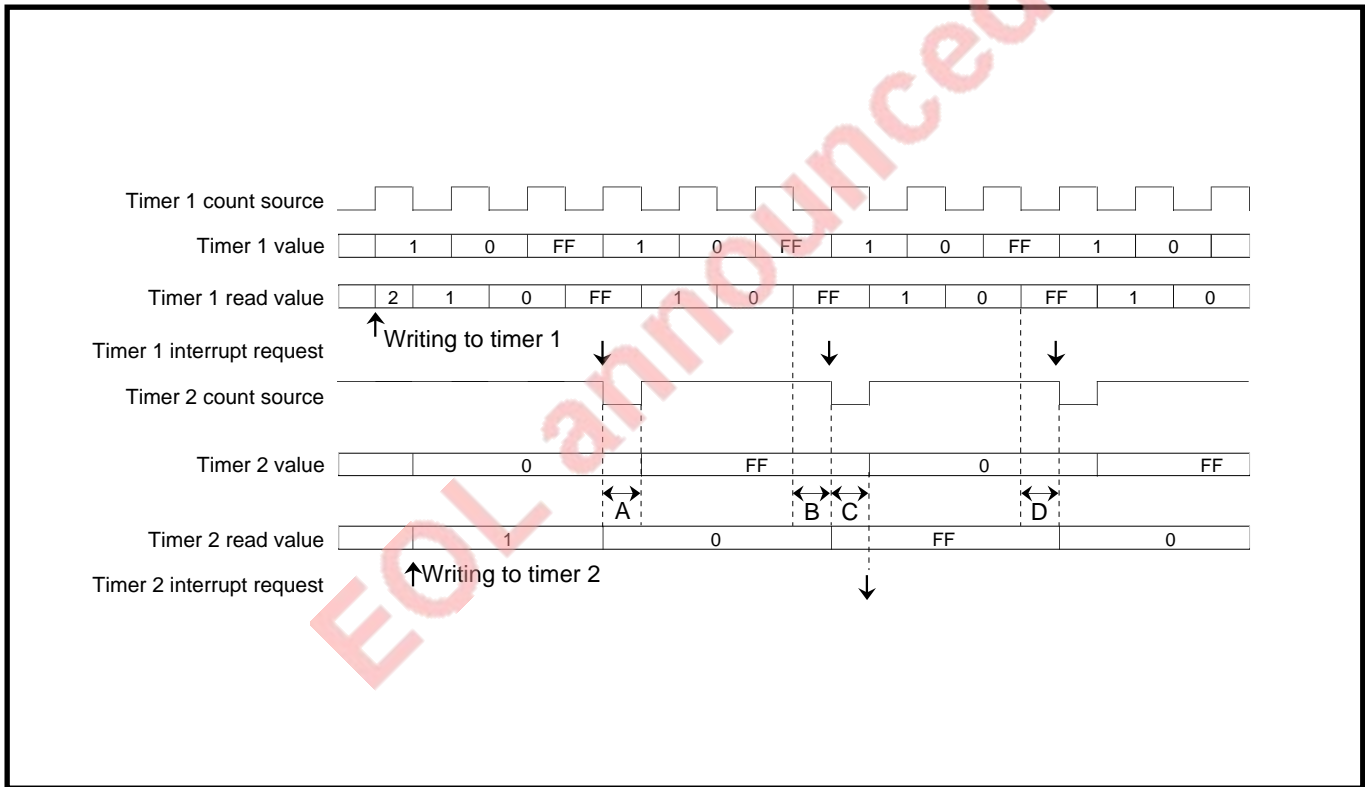

Fig. 2.3.12 Timing at which timer value and read value change in the case where two timers are connected in series
- The timing at which the timer value and the read value change, when two 8-bit timers are connected in series, is shown in Figure 2.3.12, taking the case where timer 1 and timer 2 are connected as an example (When Timer 1 and Timer 2 are connected and the set value of the Timer 1 is 216 and the set value of the Timer 2 is 116).